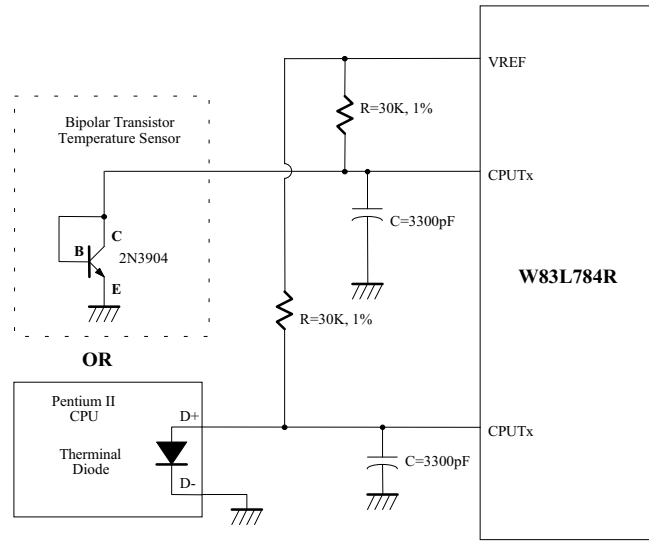

Figure 12.
The W83L784AR can alternate the thermistor to Pentium II™ (Deschutes) thermal diode interface or transistor 2N3904 and the circuit connection is shown as Figure 12. The pin of Pentium II™ D- is connected to power supply ground (GND) and the pin D+ is connected to pin PIIx in the W83L784AR. The resistor R=30K ohms should be connected to VREF to supply the diode bias current and the bypass capacitor C=3300pF should be added to filter the high frequency noise. The transistor 2N3904 should be connected to a form with a diode, that is, the Base (B) and Collector (C) in the 2N3904 should be tied together to act as a thermal diode.